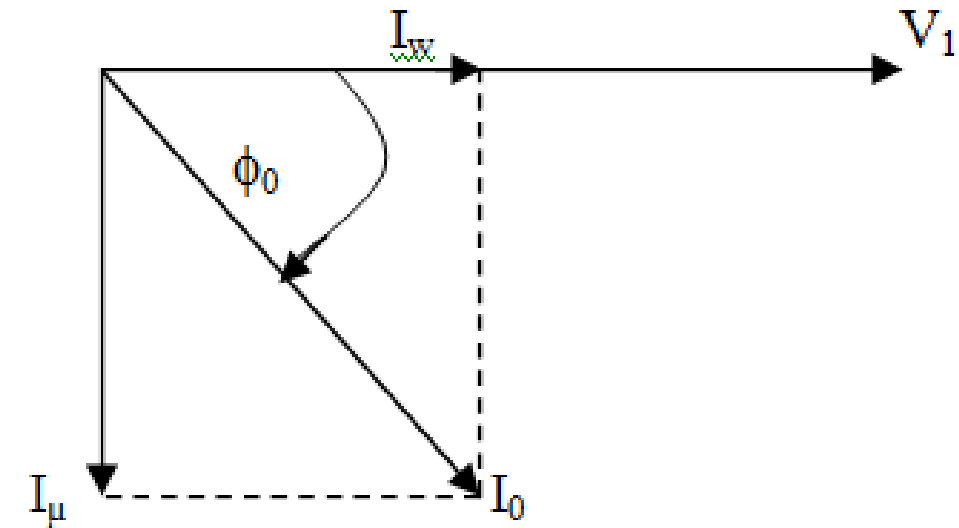

Fig.2.7 Phasor diagram for no-load operation
- **No - load current I_0 has two components** as shown in the Fig.2.7. supplying active power loss and the reactive power loss.